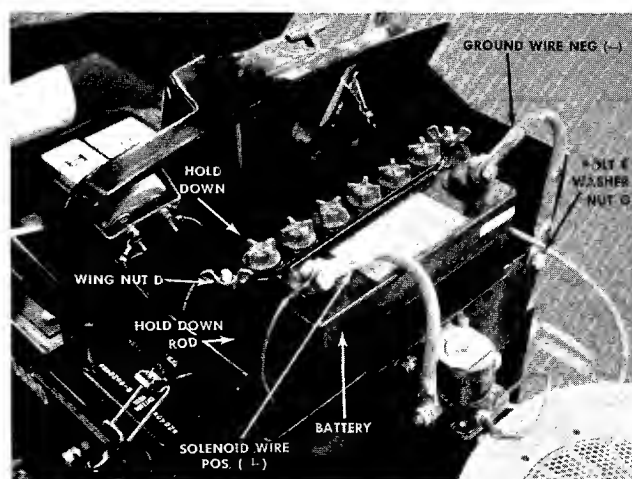

FIGURE 5. INSTALLING THE BATTERY
- Place the battery with the terminals to the FRONT in the battery case. See figure 5.